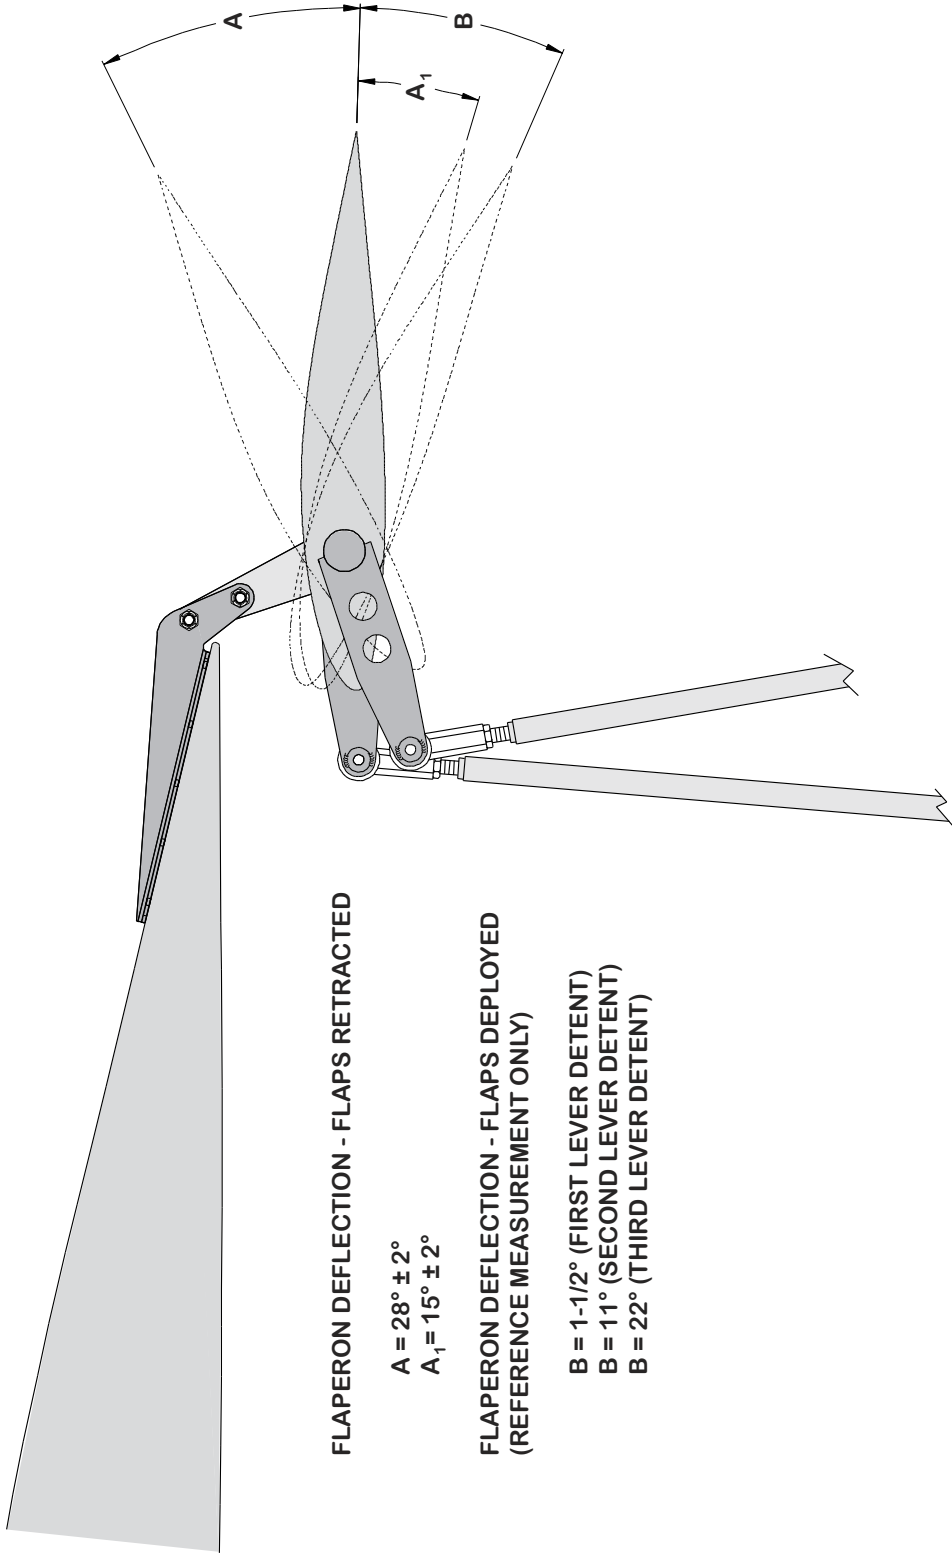

Figure D-3
9. Remove the tape from the control sticks and, with the aid of an assistant, set the control stops on the left and right side of the control column so the maximum deflection angles ('A' and 'A1') are those given in Figure D-3. Move the flap handle to the full down position and cycle the control sticks back and forth from left to right to make certain there is no binding of the control tubes. Adjust the check nuts on all of the rod ends so the rod end bearings have a small amount of rotational play when the control sticks are at their extreme throws. When the flap and aileron control systems are adjusted properly, tighten all of the rod end check nuts.
The flap deployment angles ('B') shown in Figure D-3 are for reference only. The flap deployment angles are a function of the flap bellcrank in the mixer assembly, and any attempt to adjust the flap deployment angles will adversely affect the aileron deflection angles.